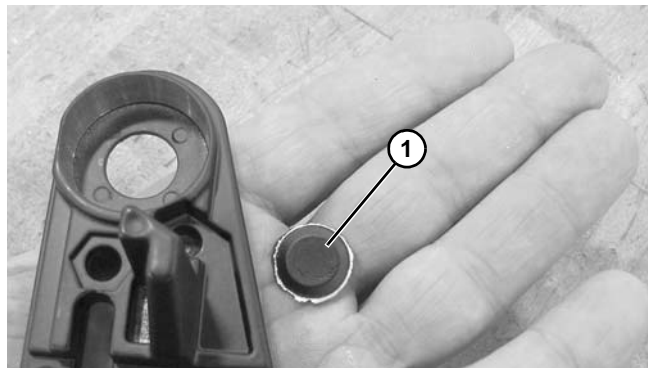

**Figure 89**
2. Set tail plate (**Figure 89, item 1**) flat side down over washer (**Figure 89, item 2**) or hole in workbench that has a minimum diameter of 5/8".